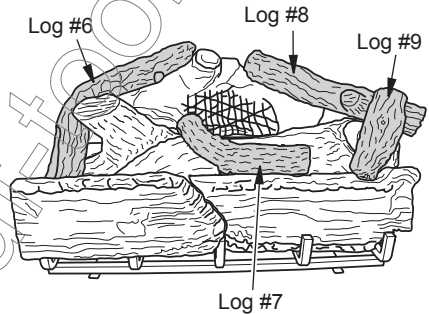

Figure 26 - Installing Logs #6, #7, #8 & #9
4. Place logs #6, #7, #8 and #9 as shown in Figure 26.